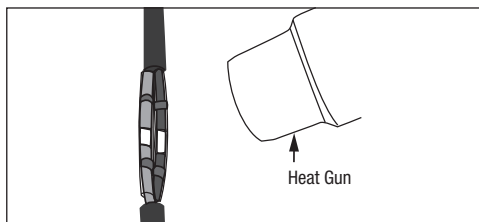

Figure 10. Heating Solder Splices
7. Using a heat gun on Medium to High heat, gently heat the centre of the solder splices until the solder ball melts and runs into the wire. Take care to only heat around the solder ball as excess heat can damage the cable. Check that the red seals next to the solder balls have also melted. See *Figure 10*.